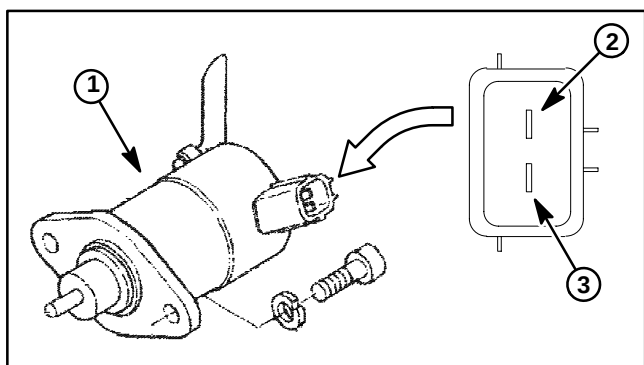

Figure 31
2. Using a digital multimeter, touch one test lead to the pull coil terminal and the other test lead to the fuel stop solenoid frame (ground) (Fig. 31). The resistance of the pull coil should be less than 1 ohm (but not zero).
3. Using a digital multimeter, touch one test lead to the hold coil terminal and the other test lead to the fuel stop solenoid frame (ground) (Fig. 31). The resistance of the hold coil should be approximately 15 ohms.
4. Touch a negative (-) test lead from the 12 VDC source to the fuel stop solenoid frame (ground) (Fig. 31). The solenoid should engage, making an audible "click," and the plunger should retract.